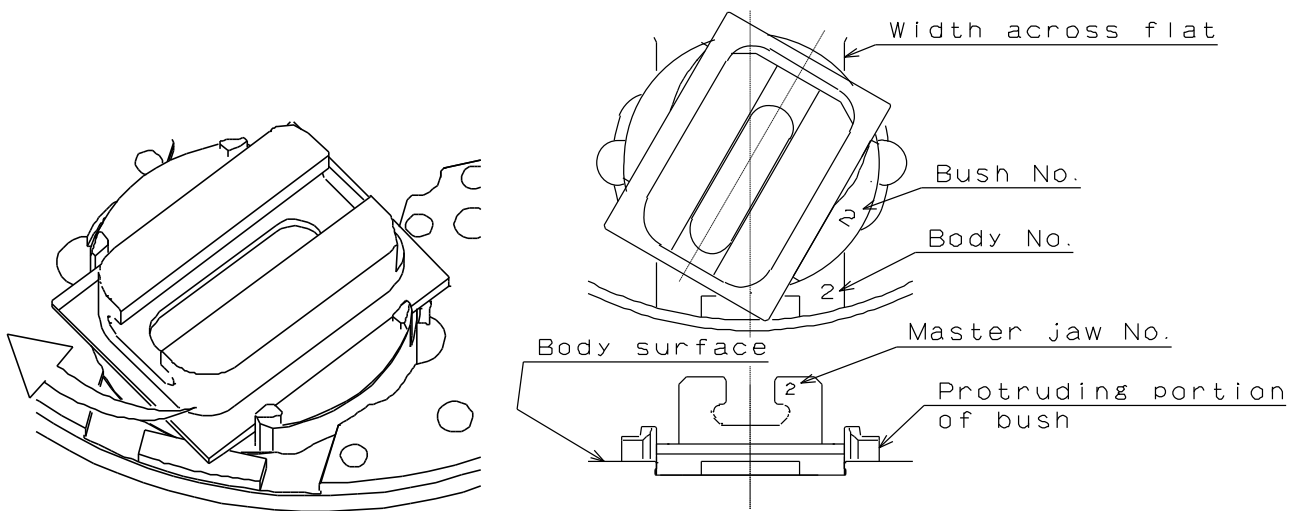

Fig.24
5. Draw out the master jaw from the width across flat of the body slightly and hook it on the protruding portion of the bush. Push the master jaw into the width across flat of the body again at the place where the master jaw is rotated 180°. Perform this procedure for all master jaws. (Fig. 24) If it is hard to draw out the master jaw, attach the other jaw temporarily and hold it since the master jaw is drawn out easily. Since grease is fully filled inside of the chuck, a strong force may be required for drawing out the master jaw.
- When drawing out the master jaw accidentally, insert it immediately. At this time, match the master jaw No., body No. and bush No. If both Nos. are different, gripping accuracy may be reduced. (Fig.24)